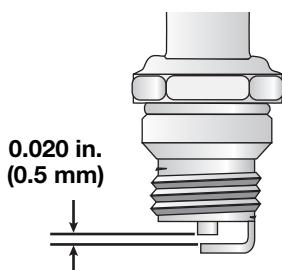

Fig. 30
- Replace a cracked, fouled or dirty spark plug. Set the air gap at **0.020 in. (0.5 mm)** using a feeler gauge (Fig. 30).